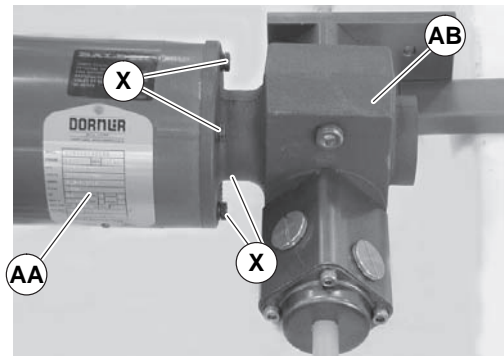
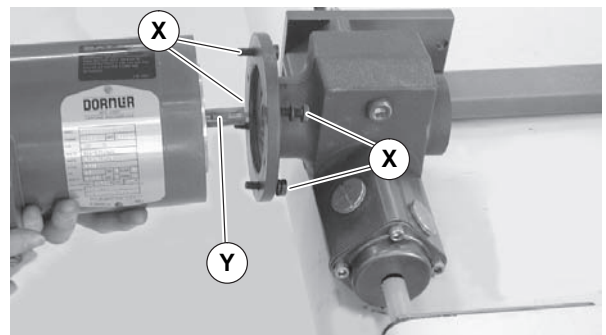

Figure 42
Figure 43
4. Remove four screws (Figure 42, item X). Detach motor (AA) from gear reducer (AB). Retain motor output shaft key (Figure 43, item Y).
5. With key (Figure 43, item Y) in keyway, slide new motor and gear reducer together. Install screws (X) and tighten.